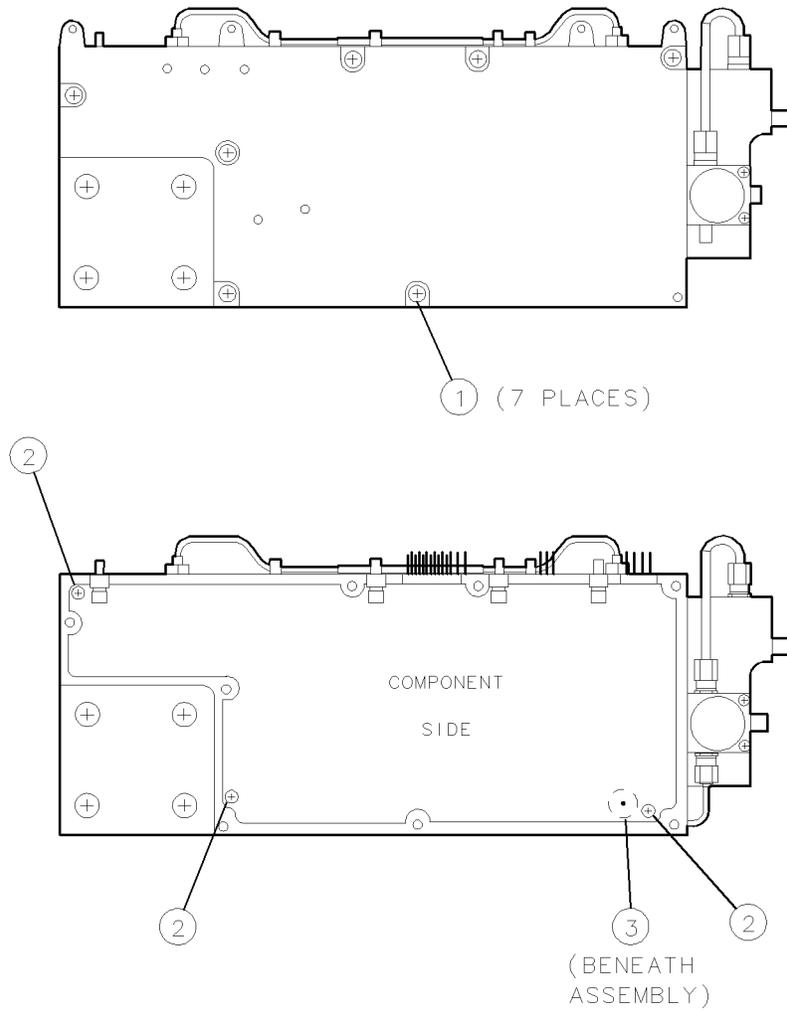

Figure 9-8. A6A1 100 MHz Reference Removal/Replacement
2. Remove seven screws ① to remove the cover from the A6A1 100 MHz reference. See Figure 9-8.
3. Remove three screws ② to free the assembly.
4. Carefully work the board straight up and out of the casting. Do not bend the feedthrough ③ inserted into the back of the assembly. Do not lose any RFI gasket material that may stick to the back of the assembly.